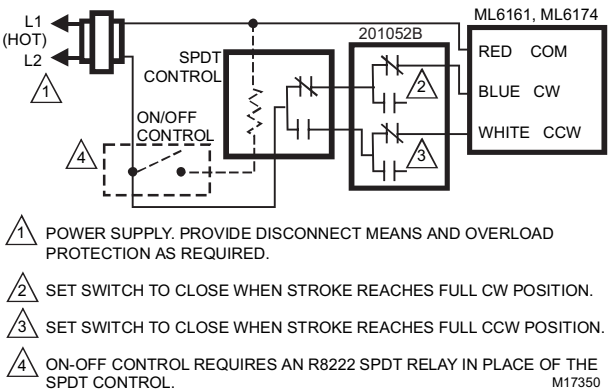

Fig. 12. 201052B Auxiliary Switch wiring.
NOTE: See Fig. 12 for the 201052B Auxiliary Switch wiring.
*When operating an ML6161 or ML6174 from a two-position controller, a 201052B Auxiliary Switch is required for proper operation. See Fig. 12.*